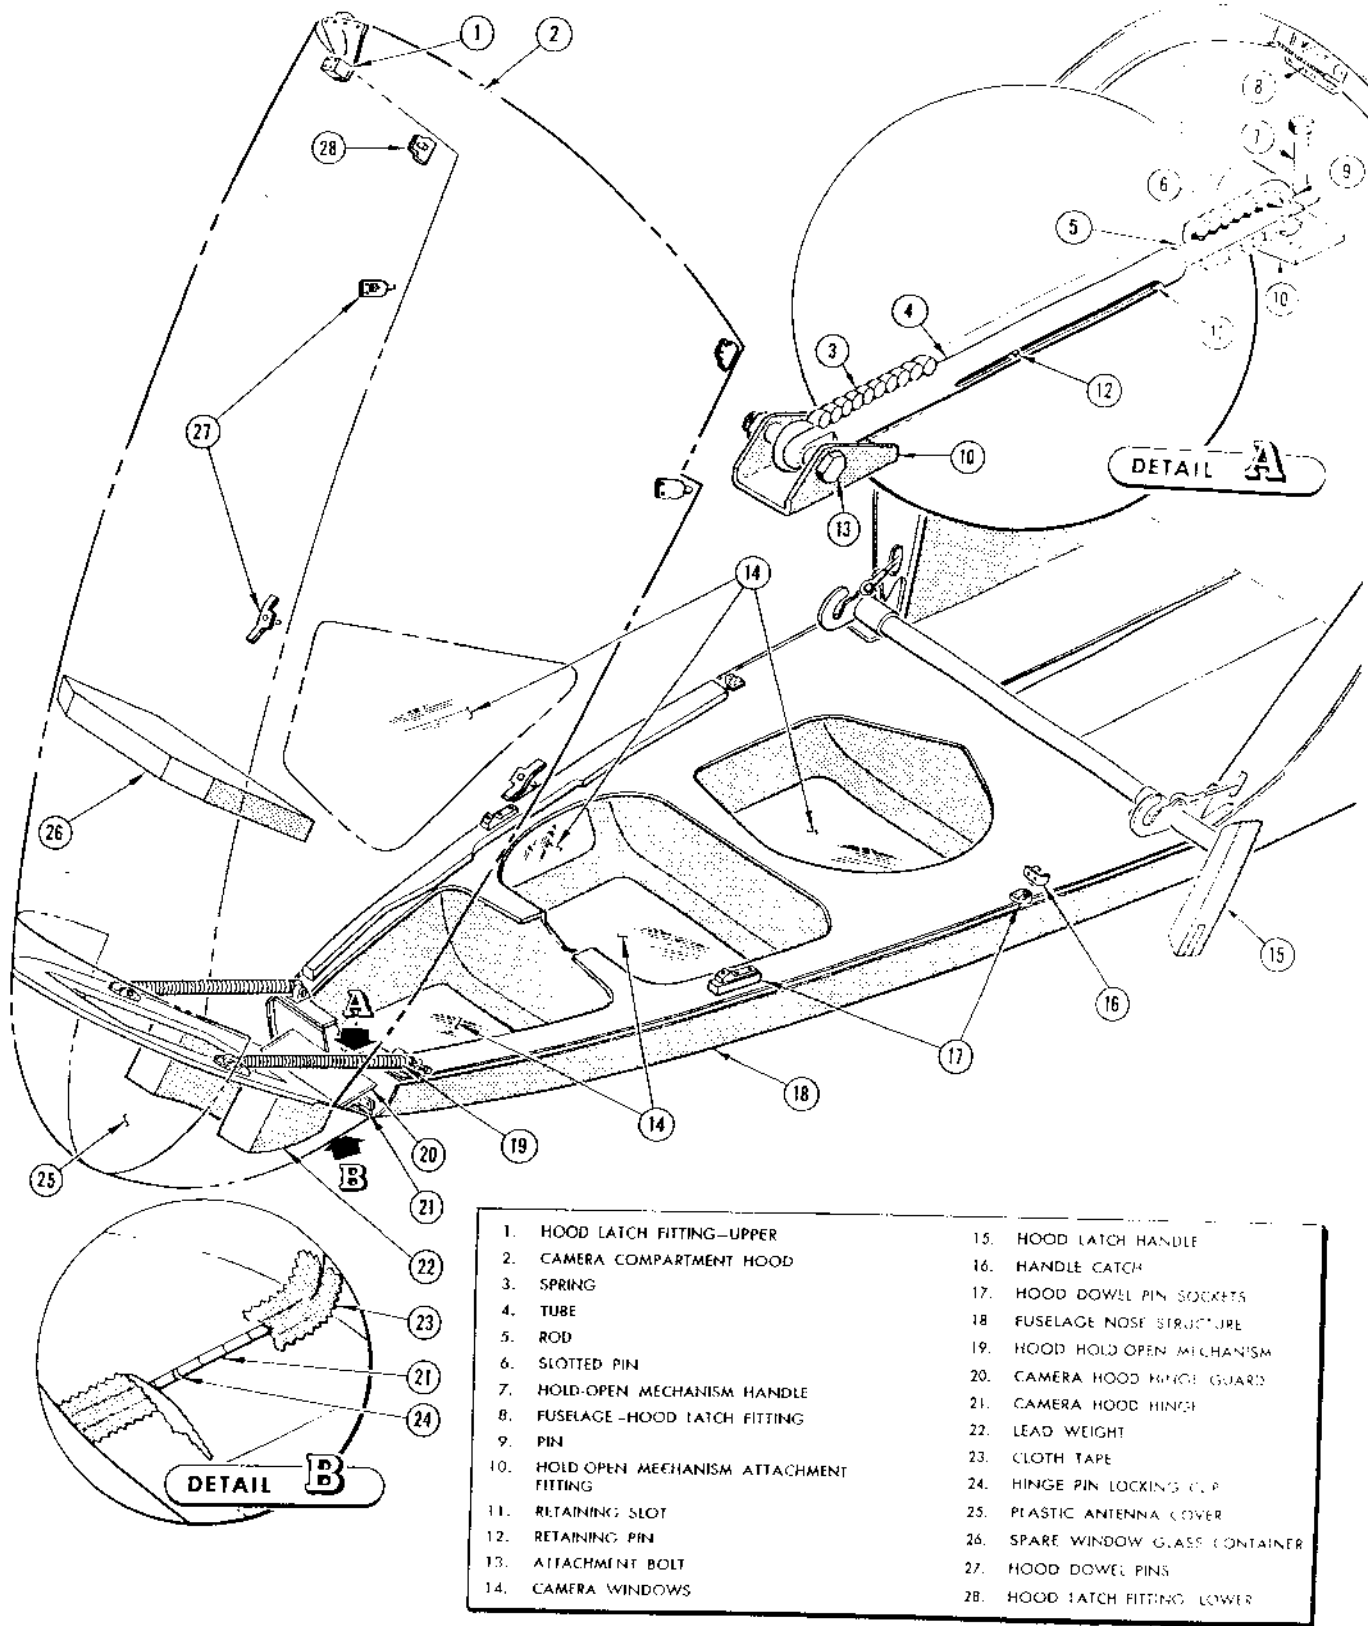

Figure 47 — Installation of Camera Compartment Hood
(See figure 47.)
(1) TO OPEN THE HOOD.—Push the trigger (18) on the forward end of handle (12). The handle will snap out of its recess. Push the forward end of the handle down until the hood is released. Then pull the hood upward and forward until it is fully open and the hold-open mechanism (19, figure 47) is engaged.